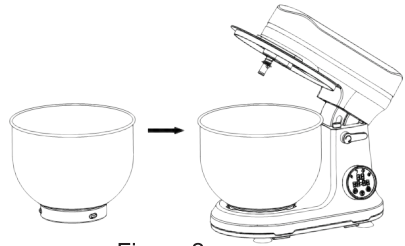

Figure 2
- Rotate it clockwise to secure it in place. Refer to Figure 2 for visual instructions.